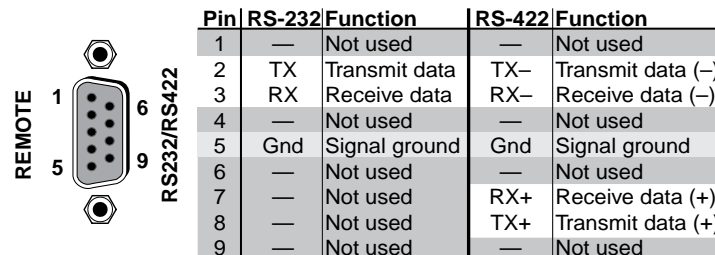

Figure 2-5 — Remote RS-232/RS-422 connector
- ⑤ **Remote RS-232/RS-422 connector** — Connect a host device, such as a computer, touch panel control, or RS-232 capable PDA to the switcher via this 9-pin D connector for serial RS-232/RS-422 control (figure 2-5).